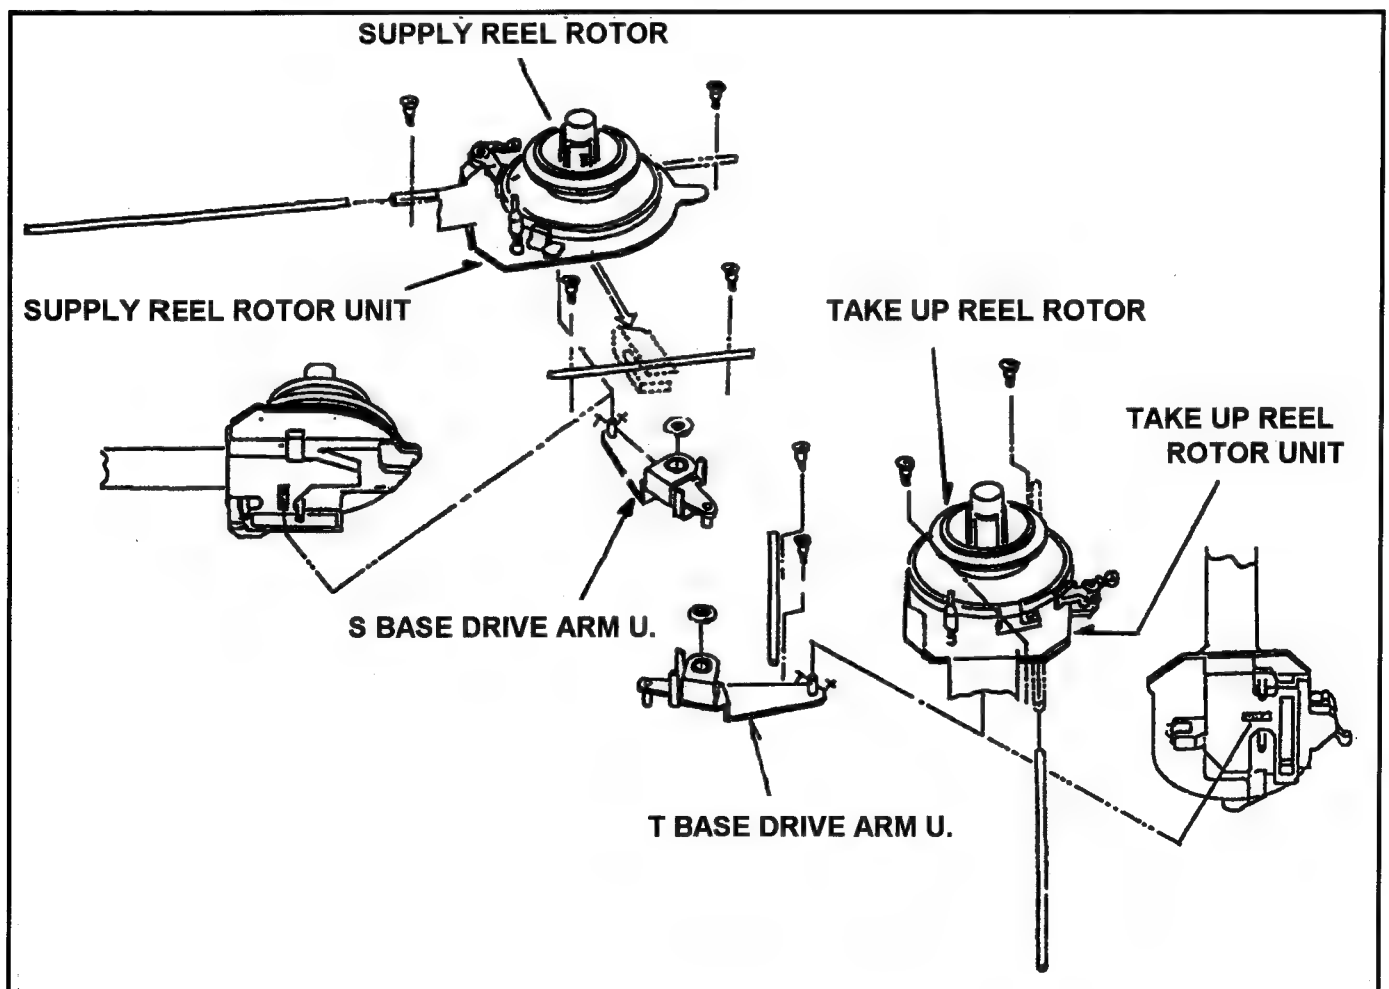

Fig.6-3-3 Installation of S & T Reel Rotor Unit
2. Hang on the Reel Rotor Unit to Reel Inner Rail and Install the Reel Rotor Unit then the pin of Drive Arm Unit should be matched with groove position of Reel Base as shown in Figure 6-3-3.
3. Install the 4 screws (C), (D) and (E).
8. Adjust the Motor Torque Offset value (Refer to item 4-1 of section 4).
9. Confirm that the Tension value on playback mode (Refer to item 5-11).